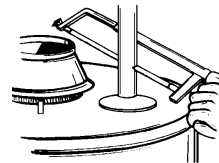

FIGURE 6.
- ⑤ Disconnect the vent pipe from the draft hood where it connects to the water heater. In most installations the vent pipe can be lifted off after any screw or other attached devices are removed. Dispose of the draft hood. The new water heater has a draft hood which must be used for proper operation.
- ⑥ If you have copper piping to the water heater, the two copper water pipes can be cut with a hacksaw approximately four inches away from where they connect to the water heater. See Figure 6. This will avoid cutting off pipes too short. Additional cuts can be made later if necessary. Disconnect the temperature-pressure relief valve drain line. When the water heater is drained, disconnect the hose from the drain valve. Close the drain valve. The water heater is now completely disconnected and ready to be removed.